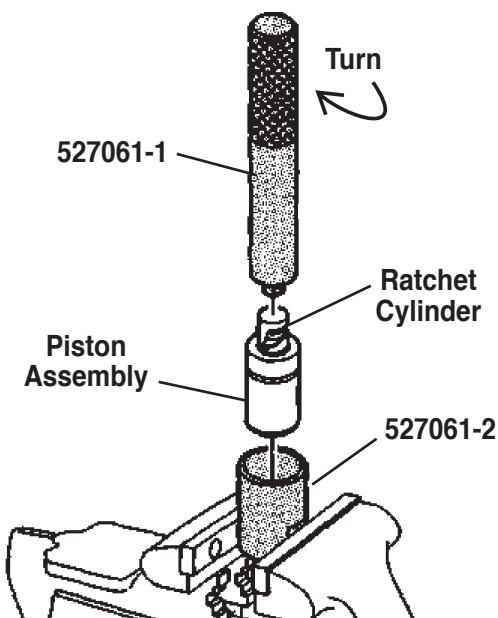

Figure 2
2. Install the No. 527061-2 into a vise. See Figure 2.
3. Install the piston assembly into No. 527061-2. See Figure 2.
4. Using No. 527061-1, turn the ratchet cylinder into the piston assembly. See Figure 2.